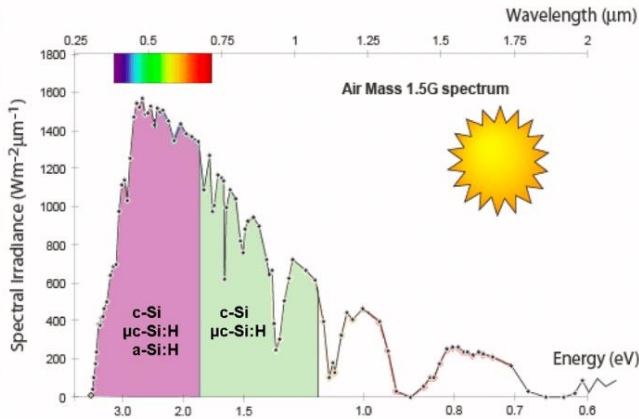

Figure 2: Different band gaps of c-Si, μc-Si:H, and a-Si:H cause different regions of the solar spectrum to be absorbed by each material.¹⁰
The second-generation solar cells as depicted in the figure.2 are made of commercially available thin film technology:
¹³ “A Schematic Design of Gainp 2 /Gaas/Gaas 0.94 Bi 0.06 /Ge Multijunction ...,” accessed August 28, 2022, https://www.researchgate.net/figure/A-schematic-design-of-GaInP-2-GaAs-GaAs-094-Bi-006-Ge-multijunction-solar-cell_fig2_327541586.
- [13] “A Schematic Design of GaInP-2 /GaAs/GaAs 0.94 Bi 0.06 /Ge Multijunction ...” Accessed August 28, 2022. https://www.researchgate.net/figure/A-schematic-design-of-GaInP-2-GaAs-GaAs-094-Bi-006-Ge-multijunction-solar-cell_fig2_327541586.